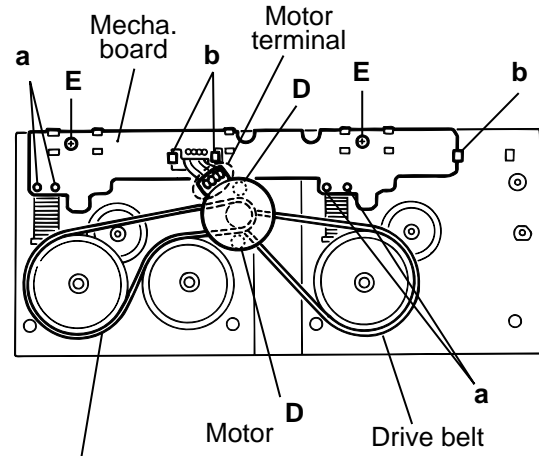
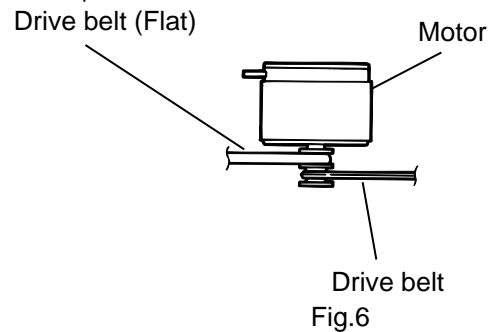

Fig.5
Fig.6
1. Remove the two screws **D** fixing the motor. Be careful to grease's splash when the drive belt comes off.(Fig.5, Fig.6)
2. Unsolder the motor terminal.(Fig.5)
1. Unsolder the four parts **a** on the solenoid coil terminal.(Fig.5)
2. Remove the two screws **E** fixing the board.(Fig.5)
3. Unhook the three parts **b** from the board.(Fig.5)
4. Remove the mechanism board.(Fig.5)